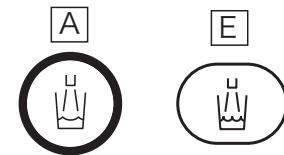

Fig.3-4 Cupfiller Switch
② Cupfiller Switch (Fig.3-4) A E